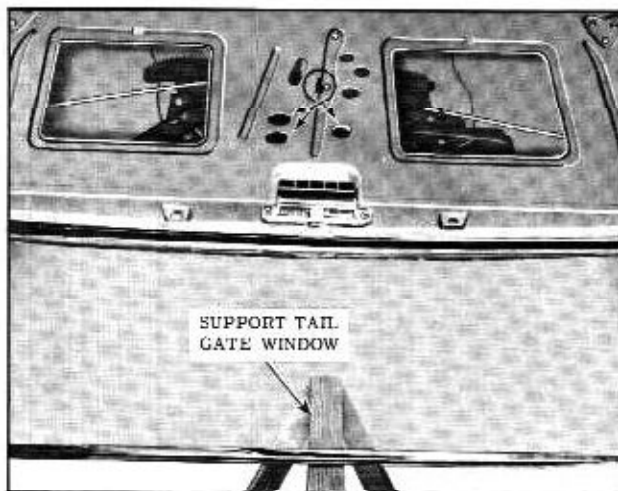

Fig. 17-192 Outside Handle Removal
2. Detach tail gate inner panel water deflector sufficiently to gain access to access holes, shown at "A". (Fig. 17-192)
- Detach tail gate inner panel water deflector sufficiently to gain access to access holes "A" for removal of assembly attaching nuts. (Fig. 17-192)